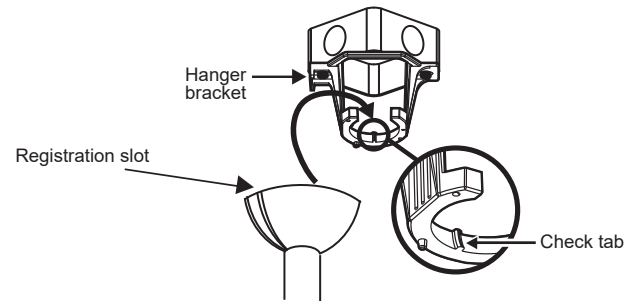

Fig. 12
Step 11. Lift the motor assembly into position and place the hanger ball into the ceiling mounting bracket. (Fig. 12)
Step 12. Rotate the entire assembly until the "Check Tab" has dropped into the "Registration Slot" and seats firmly. (Fig. 12)